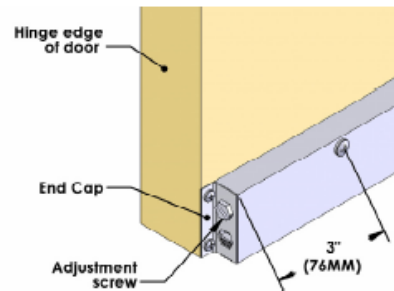

Fig. 2
5. Turn the adjustment screw, so that the gasket bar drops to provide a complete seal when the door is closed. To reduce the amount of drop, turn the screw clockwise. To increase the amount of drop, turn counterclockwise. **Special note: Do not extend the adjustment screw more than what is required for the gasket to just come in contact with the floor or threshold. This can result in excessive wear or possible damage.** Maximum drop is 3/4". When the screw is properly adjusted, position the end cap with the hex hole over the adjustment screw and attach to the door to lock the setting. (See fig. 2)